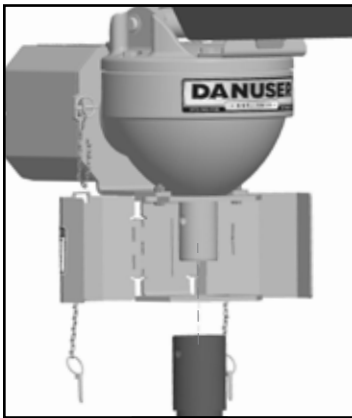

FIG. 6
**STEP 10:** Open the auger adapter guard (PN 20061) by unlatching two klik pins (PN 7652). Grease the inside of the auger adapter liberally, and attach the auger with the Danuser 1/2-13 x 3-1/4, Gr. 8, 1/2 inch of thread **special** retaining bolt (PN 6014) and nut (PN 1056). **NEVER** use a bolt that does not meet these specifications. Once the auger is installed, close the auger adapter guard and latch the two klik pins (see FIG. 6).